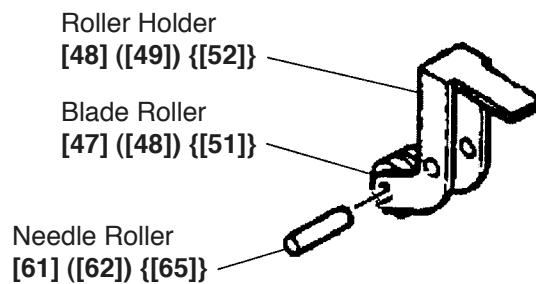
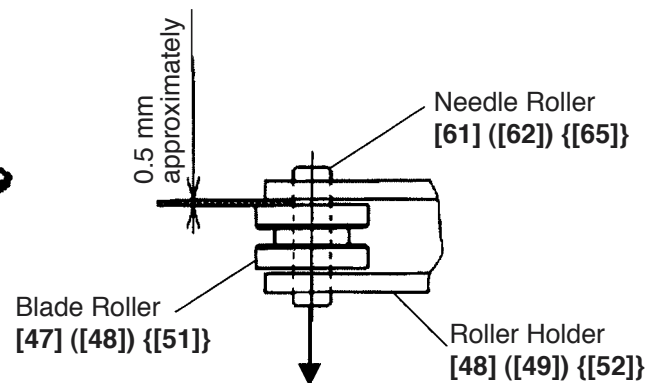

Fig. 12
Fig. 13
(7) Disassembly of the Blade Roller [47] ([48]) {[51]} (Fig. 12 and Fig. 13)